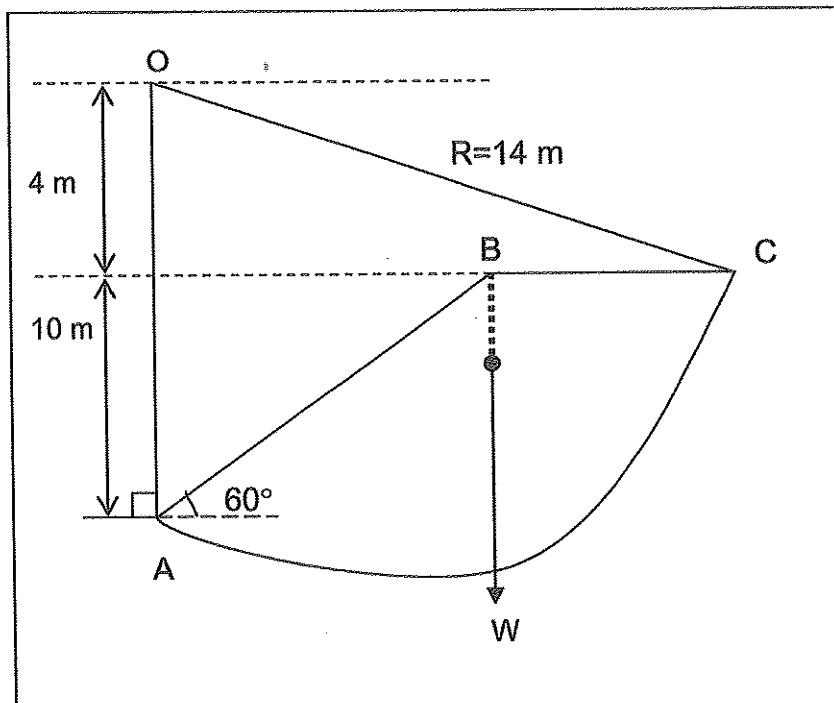

Figure B3(b)/Rajah B3(b)
- (b) From Total Stress Analysis method, determine factor of safety based on Figure B3(b).